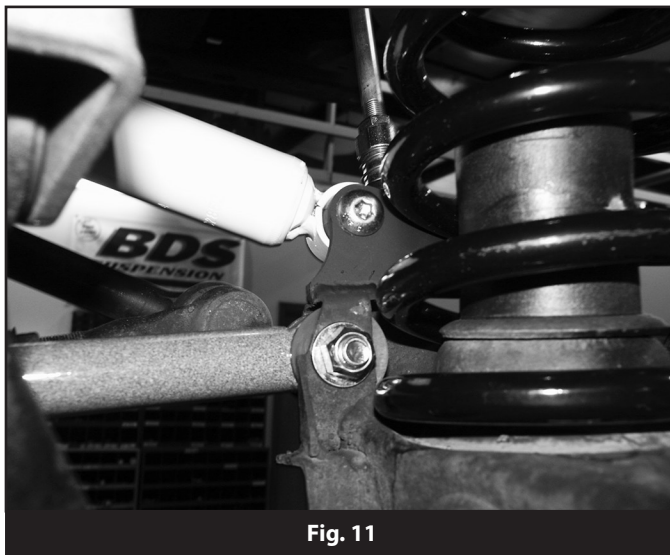

Fig. 11
21. Install the body end of the stabilizer to the new stabilizer mount on the axle. If using the original stabilizer, use the original hardware. If using a new BDS stabilizer, use the provided 1/2" x 2-1/2" button head bolt, nut and 1/2" SAE washer (BP 753). Run the bolt from the back to the front with no washer on the bolt head (Fig 11). Torque bolt to 60 ft-lbs.